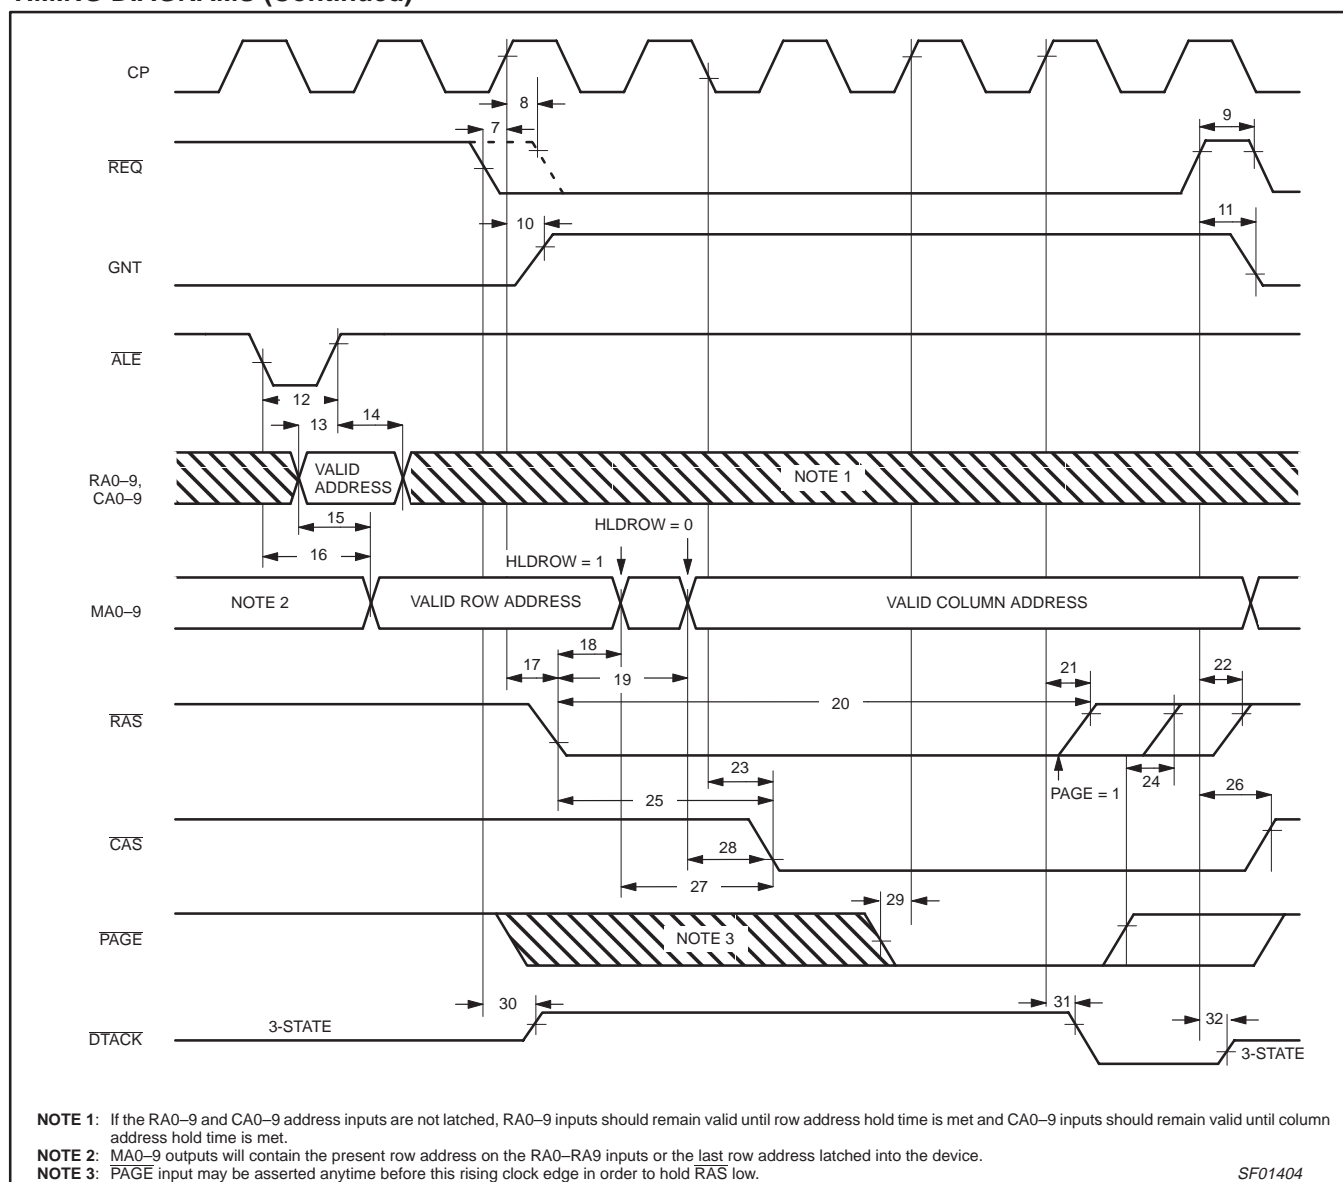

Figure 2. Memory access cycle timing
3. When  $\overline{\text{ALE}}$  is Low, the address input latches are in the transparent mode and therefore any changes in the address inputs will be propagated to the MA0–9 outputs. Figure 2 illustrates RA0–9 inputs propagating to the MA0–9 outputs, but later in the cycle, if  $\overline{\text{ALE}}$  is still Low when the CA0–9 inputs are multiplexed to the MA0–9 outputs the CA0–9 inputs will be in the transparent mode.